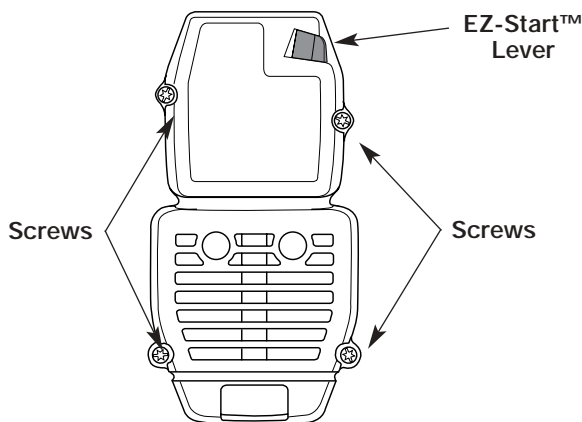

Fig. 33
1. Remove the four (4) screws securing the air filter/muffler cover (Fig. 33). Use a flat blade or T-20 Torx bit screwdriver.
2. Insert the four (4) screws into the holes in the air filter/muffler cover (Fig. 33) and tighten.